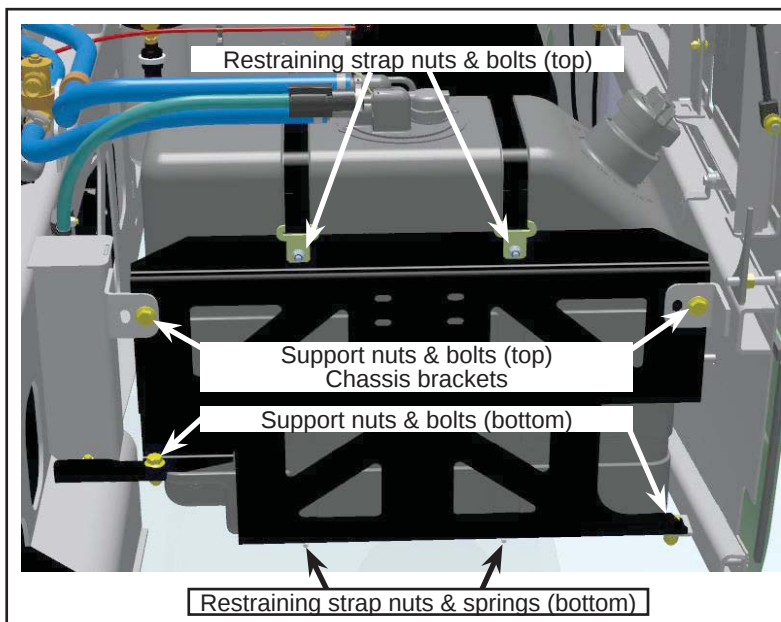

Figure 2 - DEF Tank Hardware
- 1.7. Remove the restraining strap nuts (2x) and springs (2x) at the bottom of the DEF tank. See Figure 2. Retain the hardware.
- 1.8. Remove the restraining strap nuts (2x) and bolts (2x) at the top of the DEF tank. See Figure 2. Retain the hardware.
- 1.9. Remove the tank support nuts (4x) and bolts (4x). See Figure 2. Retain the hardware.